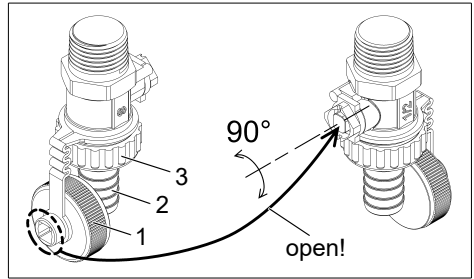

Fig. 8: Safety ball valve
- Unscrew the cap (1) of the ball valve, then insert the enclosed hose connector (2) and fix it in place with the union nut (3) (see fig. 8).
- Open the ball valve by means of the square socket spanner in the cap (see fig. 8) and drain off approx. 1 litre of rinsing water.